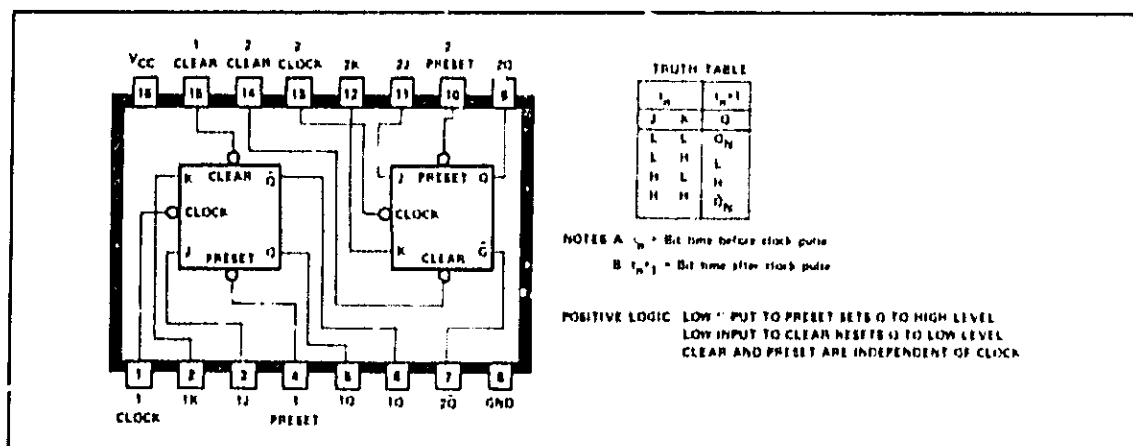

Figure 4-16. Four-Bit Bistable Latches 1620-0876
4-136. This IC (Figure 4-16) is a four-bit bistable latch. Information present at a data (D) input is transferred to the Q output when the enable (G) is high and the Q output will follow the data input as long as the enable remains high. When the enable goes low, the information (that was present at the data input at the time the transition occurred) is retained at the Q output until the enable is permitted to go high.